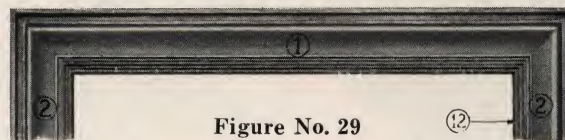

Figure No. 29
Figure No. 29 shows the "moulded face" type of window frame. (See Figure No. 29C, page 26.) No. 1 is the head casing; No. 2—side casings; No. 12—window stop.
Due to the fact that there are no flat surfaces on which to attach brackets on the face of the window frame shown in Figure No. 29, page 25, it is necessary to hang the shade on the inside of the window frame. The shade brackets may be fastened either to the window stops (12) or to the side jambs.